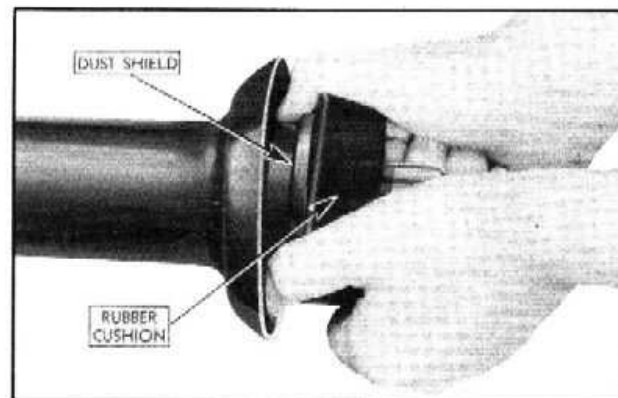

Fig. 33—Removing or Replacing Bearing Rubber Cushion
10. After the support bracket has been removed, the rubber cushion can be removed from the bearing with the hands as shown in Fig. 33.
3. Install the rubber cushion over the bearing as shown in Fig. 33.